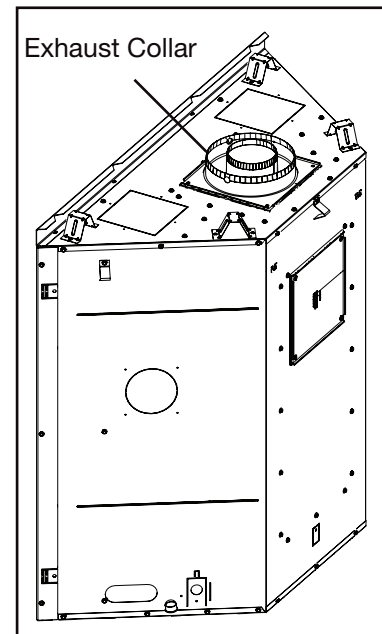

Fig. 3
- F.** From inside the firebox, install the 5" (127mm) exhaust collar with gasket and the exhaust outlet reducer plate up through the top of the firebox, and secure with the the 4 hex head 3/4" black screws supplied in the manual baggie (**Fig. 3**).